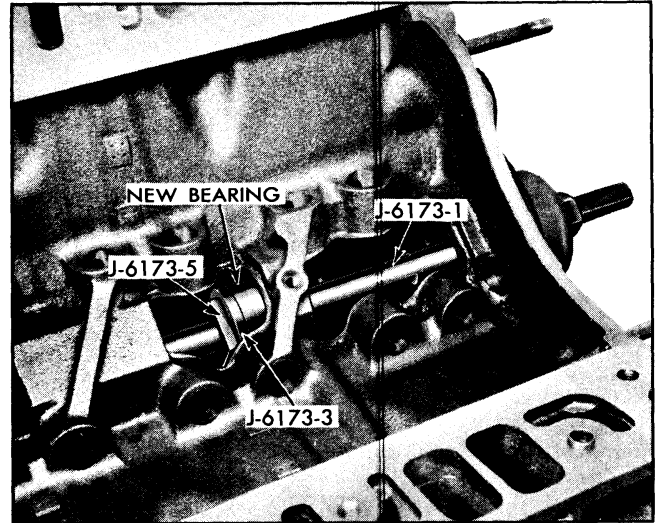

Fig. 6-50 Preparing to Install Camshaft Bearing
5. Position replacer adapter J-6173-3, with bearing in position against shoulder, against rear of hole in which bearing is to be installed (Fig. 6-50). Index mark on shoulder of replacer must point down (toward crankshaft side) to properly position bearing.
7. Slip key J-6173-5 into notches in shaft behind replacer adapter J-6173-3 and tighten nut to start bearing into hole (Fig. 6-50). Continue to tighten nut until bearing has been pulled completely into its hole. When properly positioned, it will be approximately flush with both sides of the transverse member.